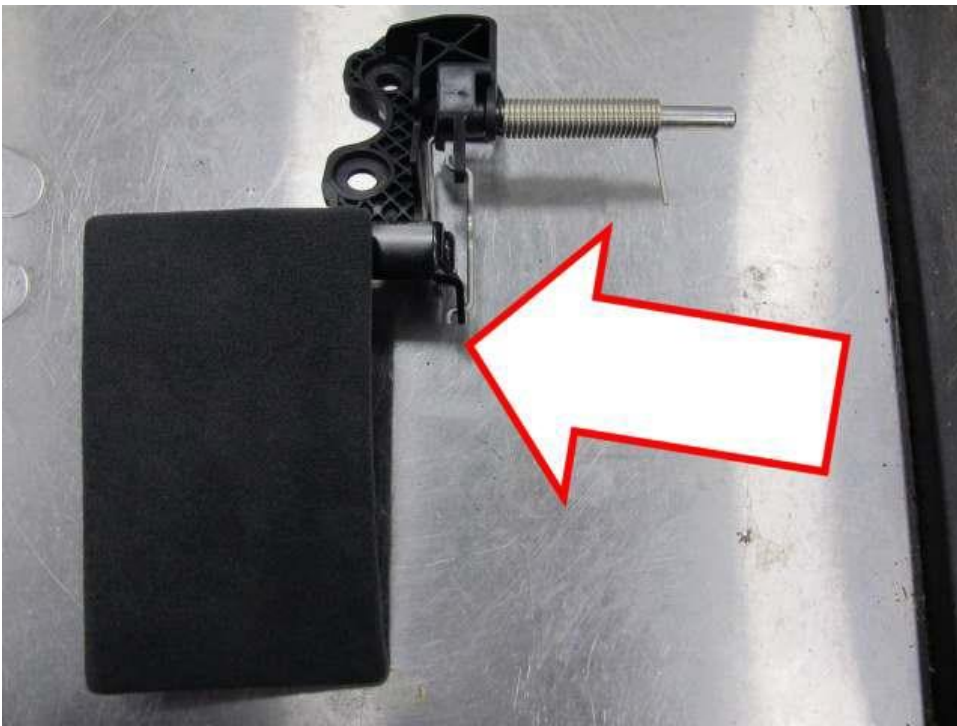

Figure 8
- The removed assembly should be as shown (Figure 8)